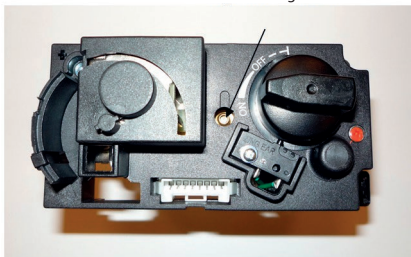

Figure 12. Adjustment method of the discharge pressure
3. The pressure regulator is in the upper part of the controller enclosure. To enable the adjustment, remove the plastic cap (Fig. 12).